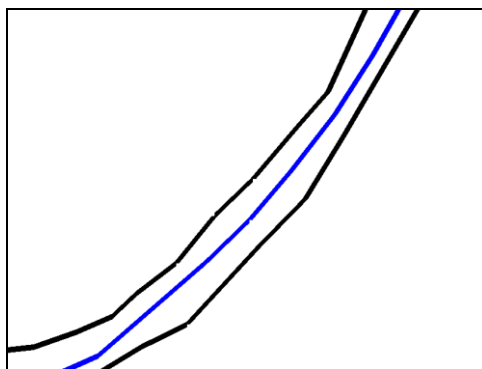

Figure 1 Centerline and bank arcs
2. **Zoom** in close enough around a section of the feature arcs to see three distinct arcs as shown in Figure 1.